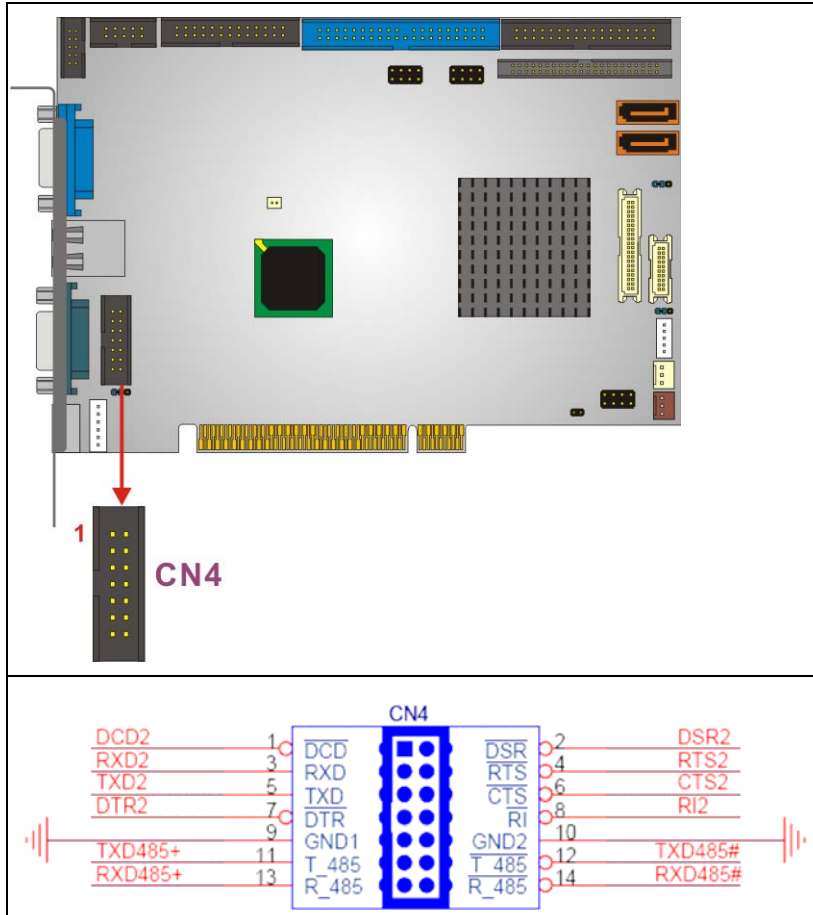

Figure 3-15: RS-232 Serial Port Connector Locations
- CN Location:** See Figure 3-15